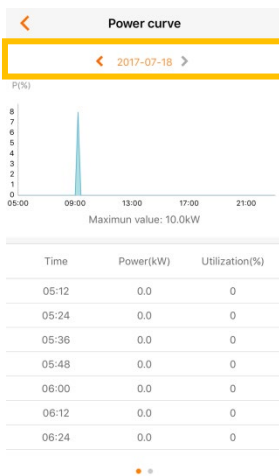

Fig. 10-10 Power curve
Step 1 Click the “Power Yields Records” to view the power curve page as shown in Fig. 10-10.